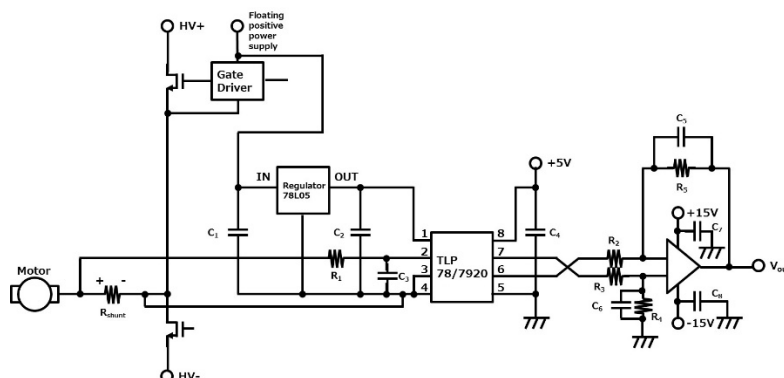

Fig.6 Motor current sensing circuit example using TLP7820/7920
- 0.1  $\mu\text{F}$  ceramic capacitors should be connected to  $V_{DD1}$  - GND1 and  $V_{DD2}$ -GND2 to obtain the stabilized operation. The bypass capacitors should be placed as close as possible (within 10mm is recommended) to each pin ( $C_2$  and  $C_4$  shown in Fig.6).
- A clock-operated switched capacitor is embedded at the ADC input, 0.01 $\mu\text{F}$  bypass capacitor should be connected at input pins to obtain certain accuracy and follow the clock operation ( $C_3$  shown in Fig.6).
- Preventing influences of aliasing noise to the ADC, an anti-aliasing low-pass filter should be placed. The filter can be formed using the bypass capacitor ( $C_3$ ) and a resistor ( $R_1$  shown in Fig.6). Since filtering frequency range of the anti-aliasing filter should be between the signal bandwidth and the Nyquist frequency, the frequency from 400 kHz to 1 MHz is recommended.